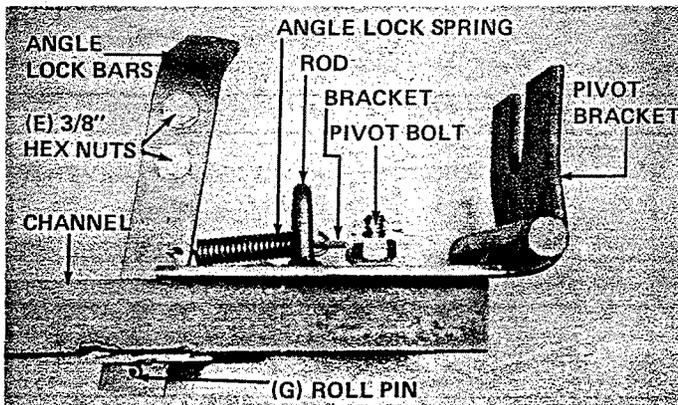

FIGURE 3
5. Tighten the 3/8" hex nuts (E) holding the angle lock bars together. See figure 3.